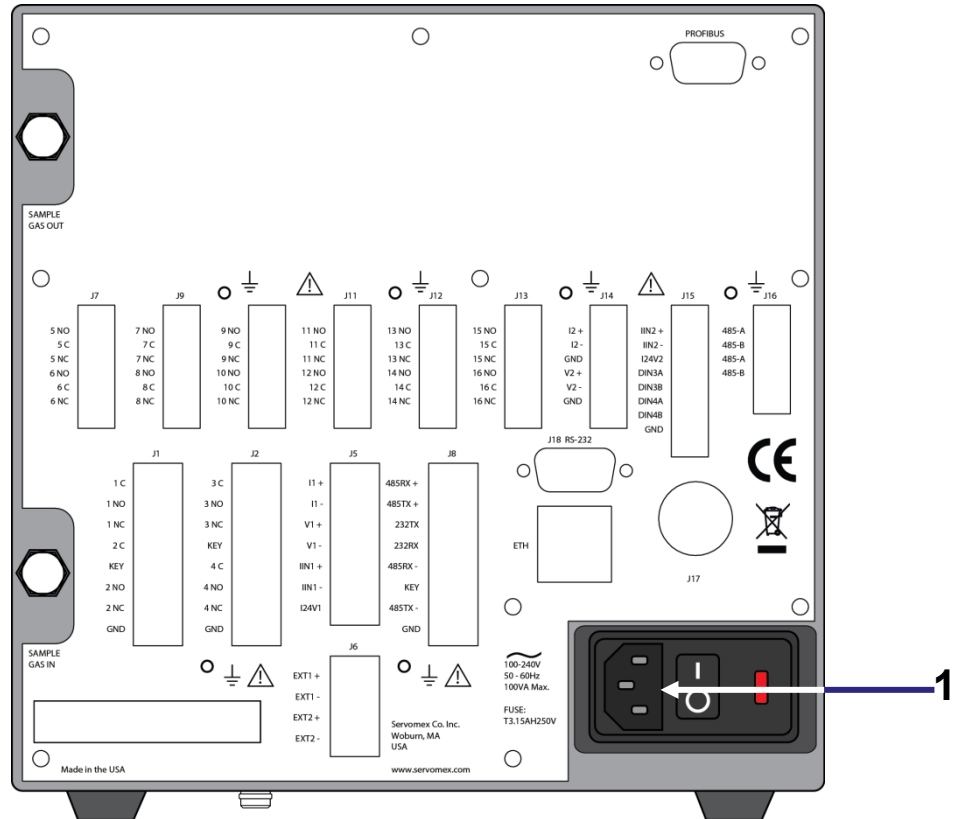

Figure 5-5: Electrical supply socket on rear of analyzer
1. Fit the IEC plug on the end of the electrical supply cable provided to the electrical supply socket on the rear of the analyzer (1 in Figure 5-5).